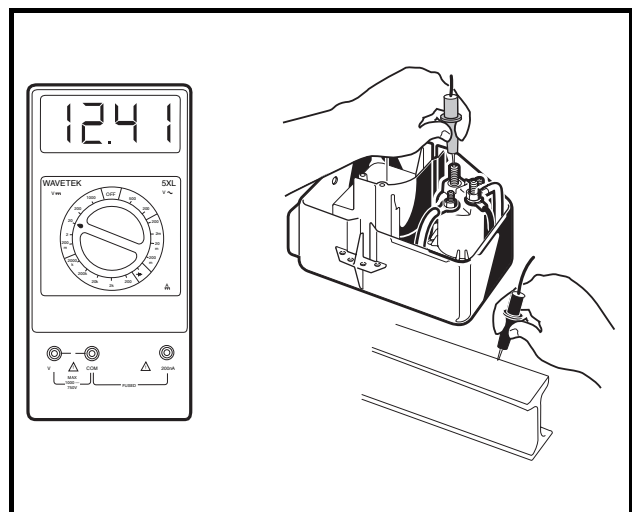

Figure 12-11 Solenoid Ground Test
9. With the Forward/Reverse handle still in NEUTRAL and the neutral lockout switch in the MAINTENANCE position, set the multimeter to 20 volts DC and place the red (+) probe on the large post that does not have wires connected to it. Place the black (–) probe on the vehicle frame. Turn key switch to the ON position, press accelerator pedal, and listen for solenoid click. The meter should read full battery voltage. If the reading is incorrect, replace the solenoid (**Figure 12-11, Page 12-15**).